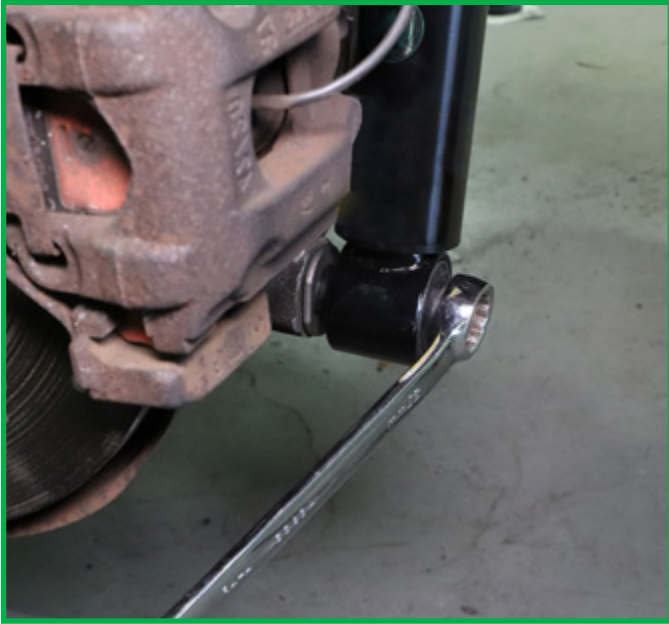

FIGURE 24
4. Remove the lower shock bolt. (Figures 24, 25)